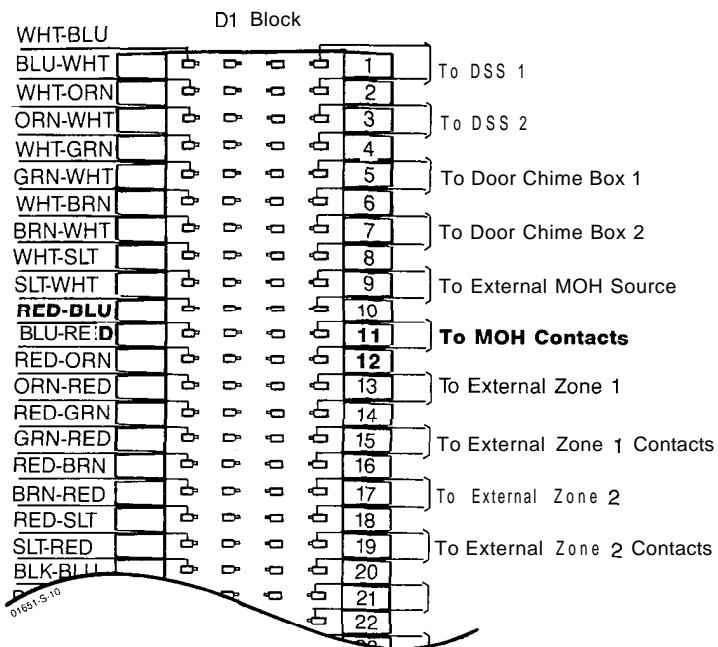

FIGURE 2-16 MUSIC ON HOLD CONTACTS WIRING
- Refer to Figure 2-16 Music On Hold Contacts Wiring: